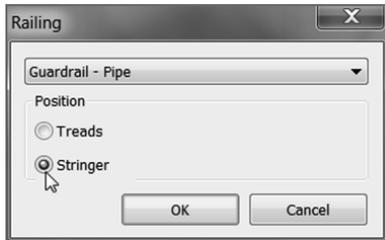

FIGURE 10.11: Select Guardrail – Pipe and the Stringer radio button.
2. In the Railing dialog box, from the drop-down, select Guardrail – Pipe, as shown in Figure 10.11.
3. Under Position, select the Stringer radio button (see Figure 10.11). Doing so hosts the railing to the stringer.